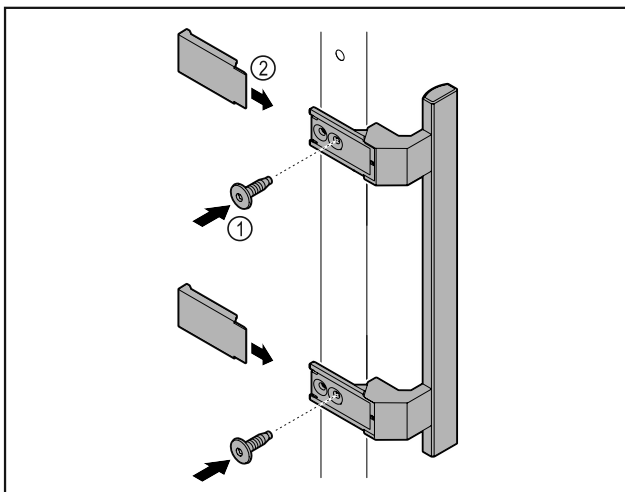

Fig. 2
- ▶ Attach handle from accessory kit to the door using supplied screws Fig. 2 (1).
- ▶ Put on cover Fig. 2 (2).